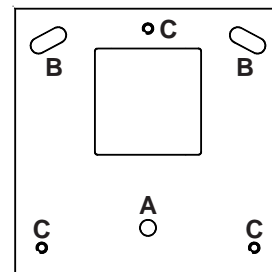

Figure 6
3.6. Secure the floor posts in this position via the central front mounting hole (A) see figure 6. Once both floor posts have been secured, check guards are still in alignment. If so secure via the two rear adjustable mounting slots (B) see figure 6. If any adjustment is required to bring the guard back into alignment this may be achieved by either:
a) Rotating the floor post via slots (B) see figure 6.
b) Adjusting the jacking screws (C) for tilt see figure 6.